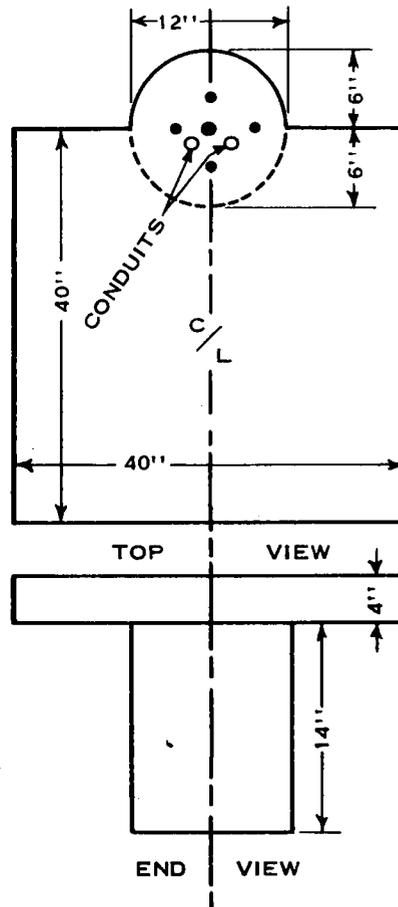

Fig. 2
3.02 The complete installation is mounted on a concrete slab 40-in. by 40-in. by 4-in., and a circular pier, 12-in. by 18-in. The slab will cover half the pier (see Fig. 2). This will be used for all BN-858A shelter booth installations, except when concrete already exists; then only the 12-in. by 18-in. pier is necessary.